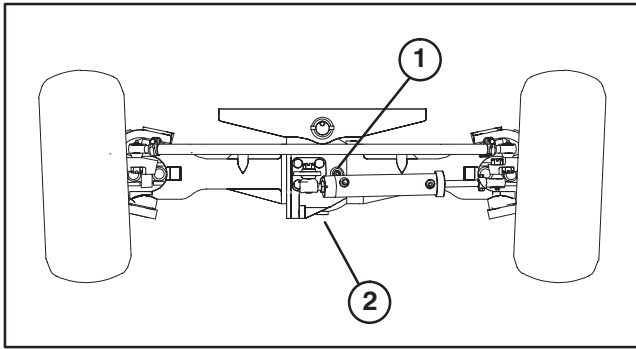

Figure 8
CHECK REAR AXLE LUBRICANT (Fig. 8) (Model 30302 Only)
2. Remove check plug from axle and make sure lubricant is up to bottom of hole. If level is low, add enough lubricant to bring the level up to the bottom of the check hole (Fig. 8).